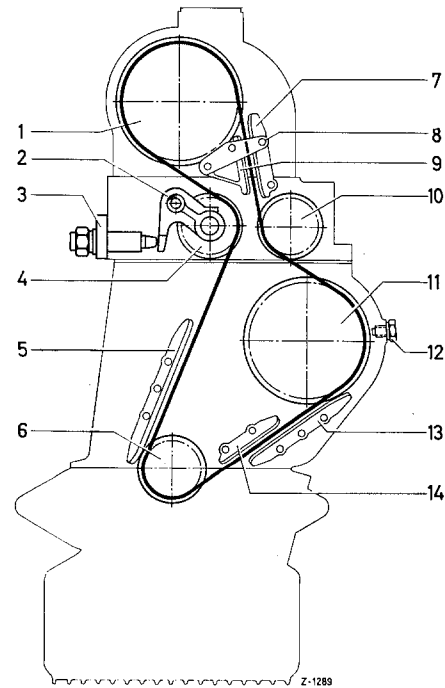

Figure 05-25/1
3. Pull the pivot pin (1) and remove the guide sprocket (10) (see Figure 05-25/1 and 05-25/2).